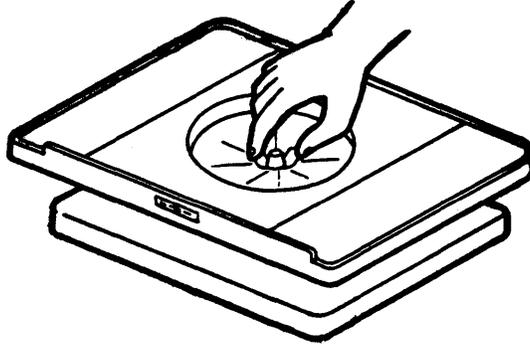

FIGURE 2-2. Display Unit Tilt/Swivel Adjustment
- b. If display unit tilt/swivel mechanism requires tension adjustment, remove four screws that secure tilt/swivel mechanism to display unit. Tension adjustment is accomplished as illustrated in Figure 2-2.